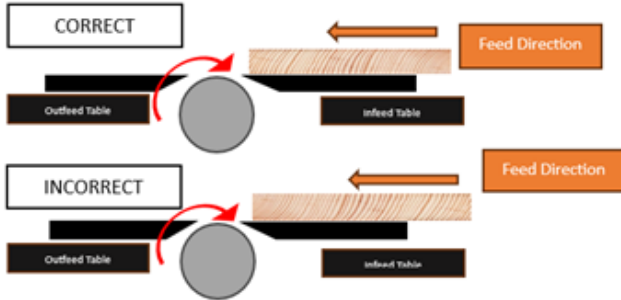

Figure 10: Proper grain alignment for jointing directions.
- **Wood Selection:** Only cut natural wood with the machine, avoiding materials such as MDF, particle board, plywood, laminates, metals, glass, stone, tile, products with lead-based paint, or those containing asbestos, as using the machine on these materials may lead to injury or machine damage. See figures 10, 11 for proper grain orientation.